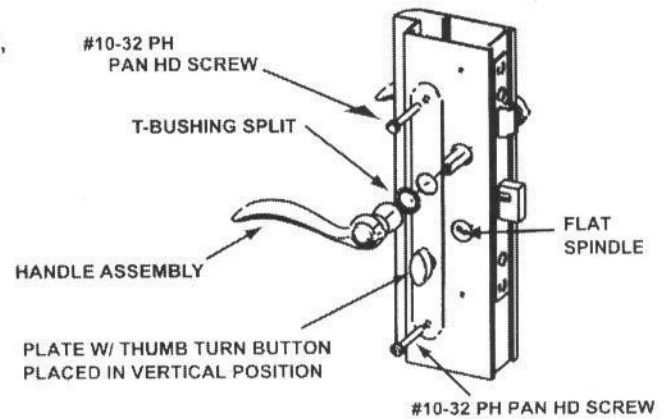

FIGURE 7
E. Align thumb turn button in vertical position on the inside trim plate, as shown in **Fig 7**. On the inside of the door, position the inside handle, with T-bushing, through the inside trim plate and over the spindles; making sure inside lever is facing in correct direction.
F. Align trim plates and install the (2) 10-32 pan head screws through the top and bottom holes on the inside trim plate.